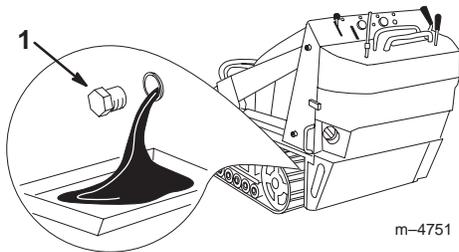

Figure 31
4. Remove the drain plug (Fig. 31).